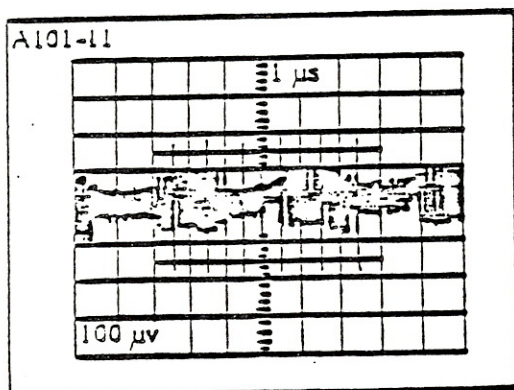

Figure 1. Output Signal
c. Adjust head-adjust screw clockwise or counter-clockwise and look for a signal of 300MV or greater (The manual's reference to a 50MV signal is incorrect and will be corrected in the next revision of the manual.) Refer to Figures 1 and 2 on the following page for examples of waveform patterns before and after head alignment. (If signal stops, rewind tape and press PLAY again. Repeat procedure as necessary until alignment is complete.)